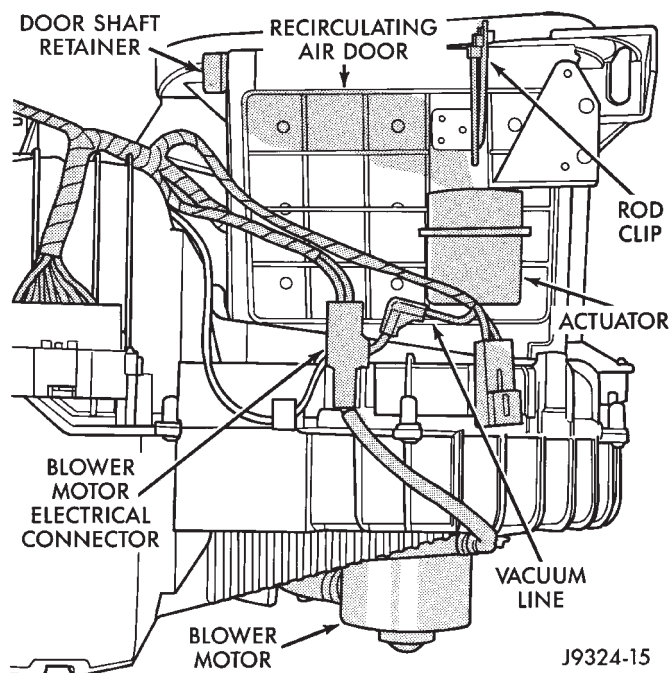
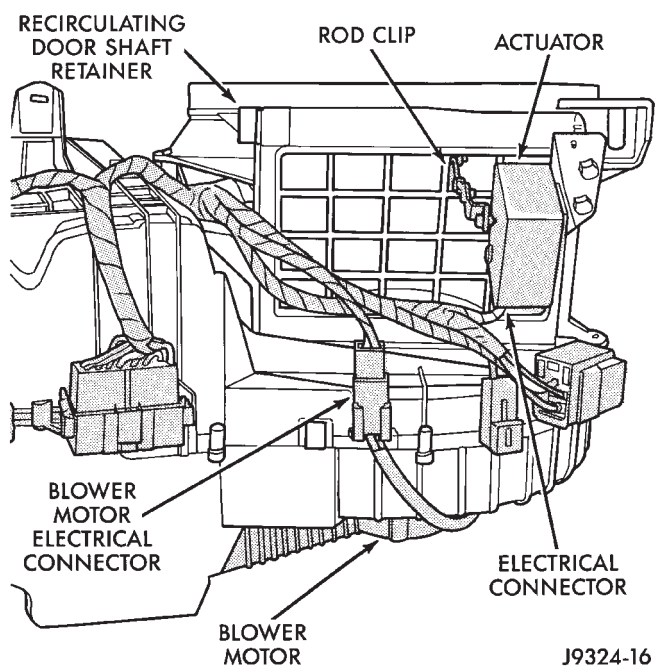

Fig. 17 Recirculating Air Door Actuator (Heater and Manual A/C)
Fig. 18 Recirculating Air Door Actuator (ATC)
- (1) Remove the instrument panel (refer to Group 23, Body).
- (2) Disconnect the vacuum line (Fig. 17) or electrical connector (Fig. 18).
- (3) Disconnect the actuating rod clip (Figs. 17 and 18).
- (4) Remove the actuator retaining screws.
- (5) Remove the actuator (Fig. 17 or 18).
- (1) Remove the heater-A/C unit from the vehicle (refer to Heater-A/C Unit Removal).
- (2) Disconnect the actuating rod clip (Fig. 17 or 18).
- (3) Pry the recirculating door shaft retainer from the shaft (Fig. 17 or 18).